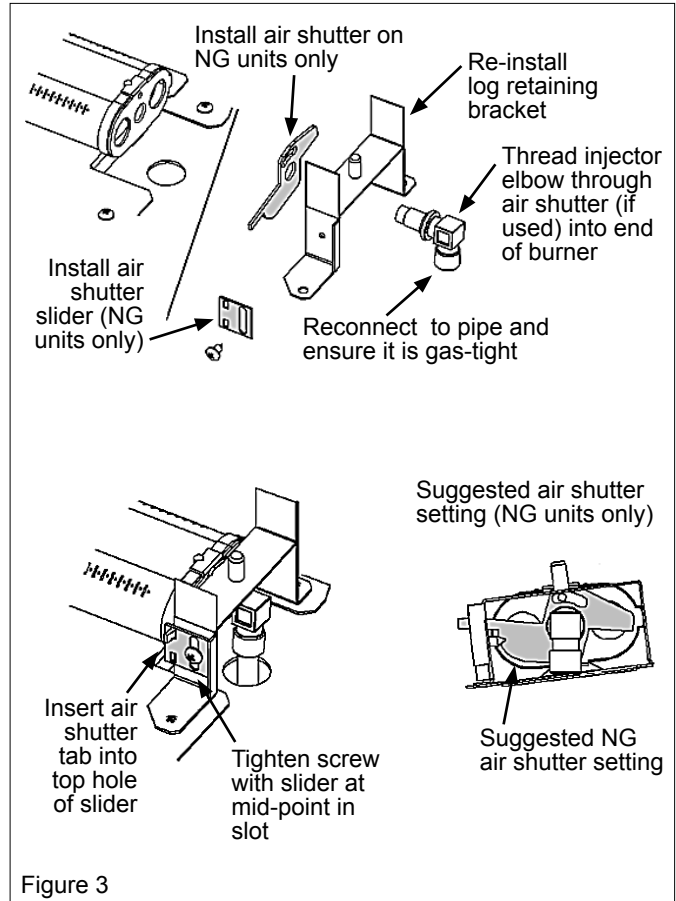

Figure 3
Reinstall the main burner injector elbow—see figure 3. Ensure the proper injector for the desired fuel type. Note the catalogue number from the *Specifications* table on page 1 and the same number stamped on the side of the injector elbow.
- If converting to a NG burner, install the air shutter supplied with this kit as shown in figure 3.